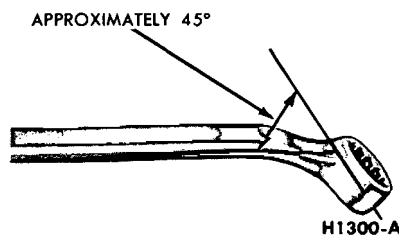

FIG. 6—Brake Bleeder Wrench
1. Position a bent 3/8-inch box wrench on the bleeder fitting on the right rear brake wheel cylinder (Fig. 6). Attach a rubber drain tube to the bleeder fitting. The end of the tube should fit snugly around the bleeder fitting.
3. Position a $\frac{3}{8}$ -inch box wrench on the bleeder fitting on the right rear brake wheel cylinder (Fig. 6). Attach a rubber drain tube to the bleeder fitting. **The end of the tube should fit snugly around the bleeder fitting.**